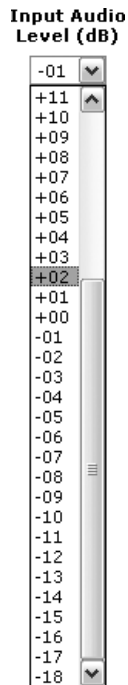

Figure 65. Gain Drop Box
- Click the Input Audio Level (dB) drop box. A drop down scroll box appears (see figure 65).